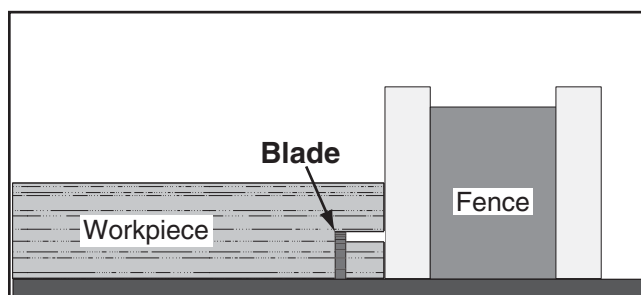

Figure 71. Example of second cut to create a rabbet.
7. Lay the workpiece flat on the table, as shown in **Figure 71**, adjust the saw blade height to intersect with the first cut, then perform the second cut to complete the rabbet.